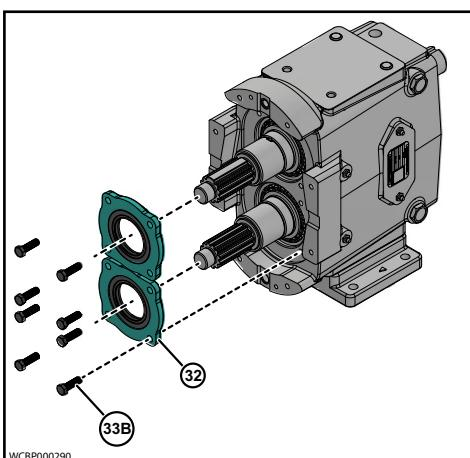
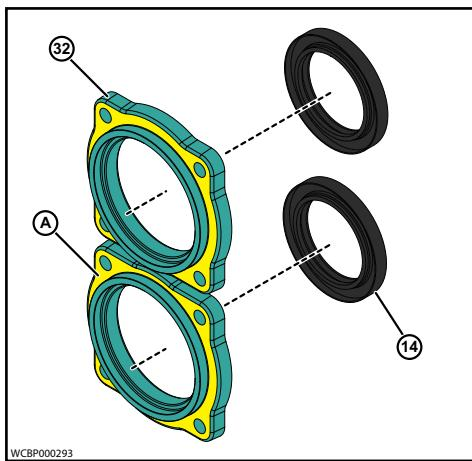

Figure 71 - Remove Bearing Retainers
**Figure 73 - Press Shafts from Gear Case**
**NOTE:** Protect the liquid end of the shafts by wrapping them with tape. See Figure 71 and Figure 73.
3. Remove the front bearing retainer screws (33B) and pull off the bearing retainers (32) (Figure 71). If a retainer is stuck, leave it in place; it will press out when the shaft is removed.
5. Place the gear case on an arbor press with the liquid end facing down. Protect the shaft ends with a wood or plastic block (C) (Figure 73) and press the shafts out of the gear case. See Table 11, "Arbor or Hydraulic Press Required (Tons)," on page 65.